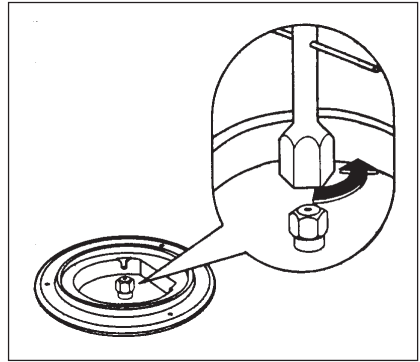

Fig. 1
- With a socket spanner 7 unscrew and remove the injectors (Fig. 1), and replace them with the ones required for the type of gas in use (see table Gas burners).